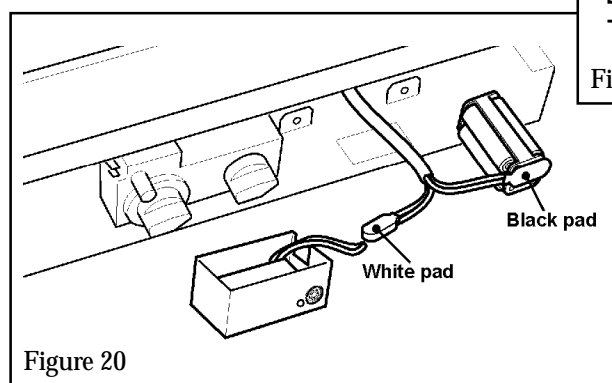

Figure 20
- Remove the remote control receiver lid. Remove the cover from the **white** connection pad. Fit this connection pad to the remote control receiver terminals. See figure 20.
- Fit the **black** connection pad to a battery box. Fit four 1.5V batteries. See figure 20.